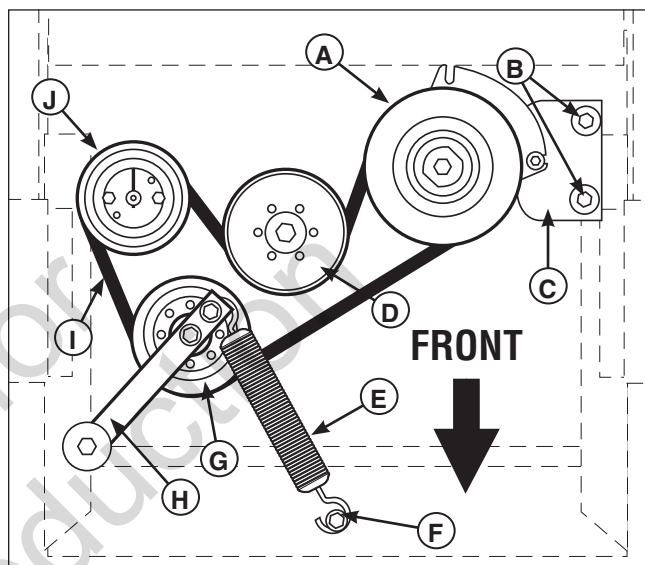

Figure 23. Transmission Drive Belt
3. Remove the clutch anchor bolts (B, Figure 23) that fasten the clutch anchor pad (C) to the anchor.
5. Push the idler arm forward and remove the belt tension spring from the spring anchor bolt (F).